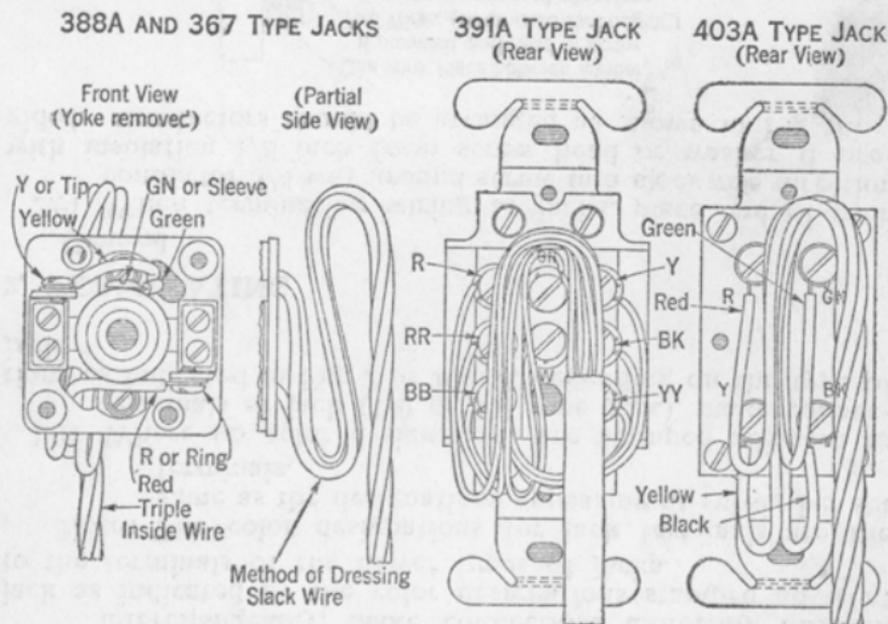
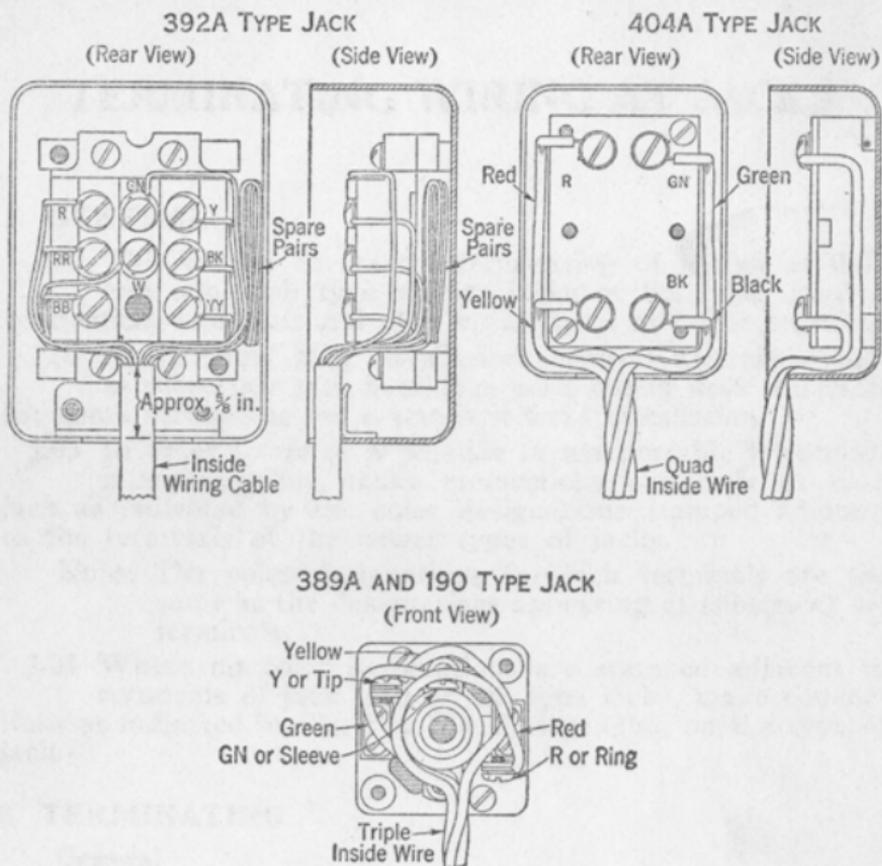

Fig. 2
Fig. 3
1.04 Where no color designations are stamped adjacent to terminals of jack (190 or 367 type jack), make connections as indicated in Fig. 2 or Fig. 3, depending on the type of jack.
2.02 In terminating wiring at flush type jacks, leave 6 to 8 inches of slack to permit the removal of jack without undue strain on the conductors, as shown in Fig. 2.
2.03 In terminating wiring at non-flush type jacks, dress conductors as shown in Fig. 3.